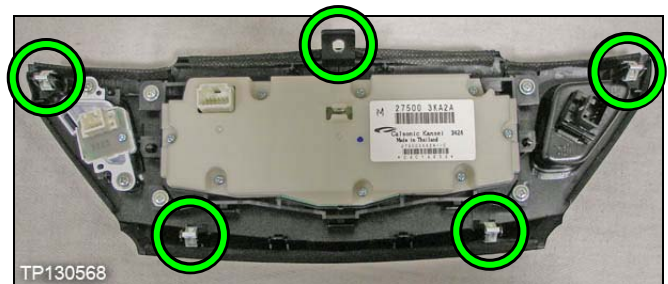

Figure 34
- Figure 34 shows the four (4) clips and screw hole on the A/C and AV (or navigation) switch assembly.